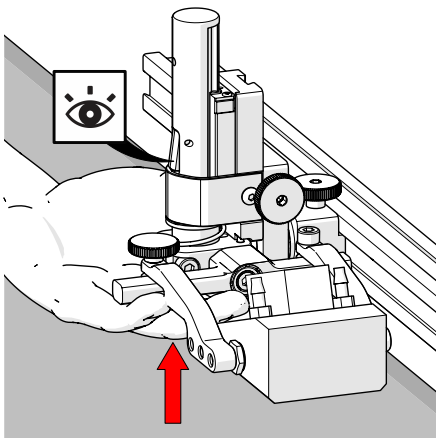
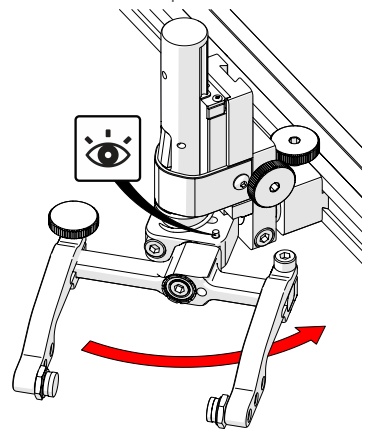

Fig. 111 - Latch probe holder
Fig. 117 - Stop post locates 90°
1. Ensure the probe holder is in the latched, upper position. Lift the probe holder until the latch is fully exposed and snaps out to lock (Fig. 111).
1. Ensure the probe holder is in latched, upper position (*Fig. 111*).
To return the transverse adjustment to neutral (90°). The probe holder must be in the latched, upper position (*Fig. 111*). Rotate the yoke until the stop post contacts the base of the probe holder (*Fig. 117*). Then tighten the transverse adjustment screw.
1. Ensure the probe holder is in the latched, upper position (*Fig. 111*).
1. Ensure the probe holder is in the latched, upper position (Fig. 111).